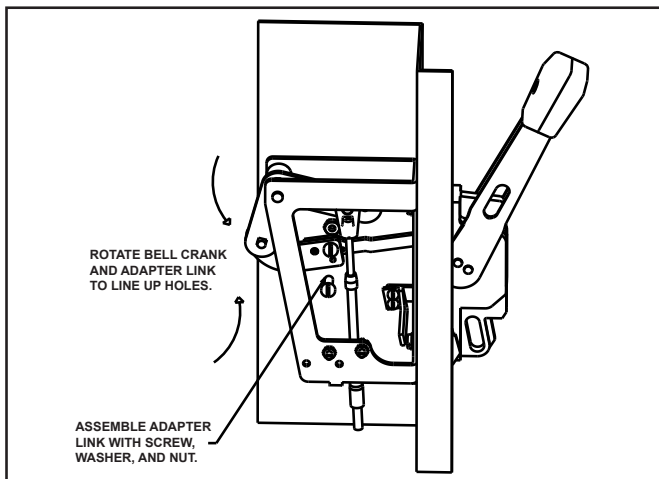

Fig. 1-6 Assembly of Adapter Link to Actuator Link.
5. Rotate the bell crank towards the handle and rotate the handle to the ON position. Align the adapter link and attach it to the actuator link using the 1/4-20 pan head screw and nut. See Fig. 1-6.